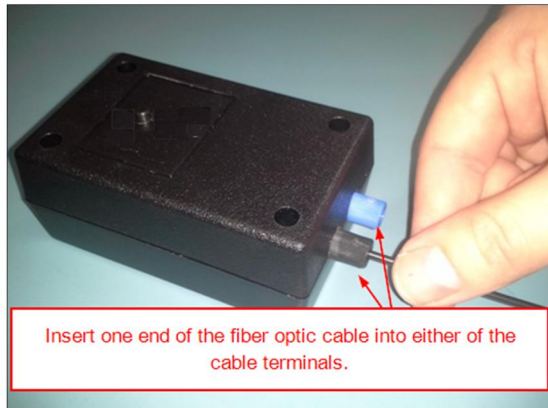

Figure 19 - Screwing terminal clockwise to secure cable
2. Cut the cable using a fiber optic cutter such as the Omron E39-F4 cutter (see Figure 19). Use Industrial Fiber Optics IF-C-S4 or equivalent splice connectors to splice cable together, if needed.